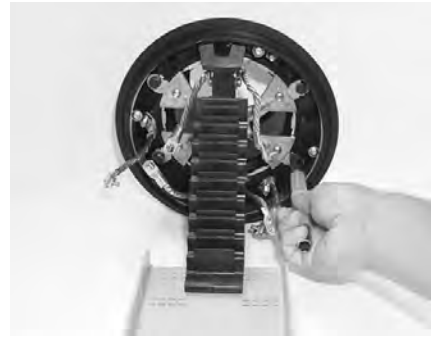

Figure 1
1. Loosen the four bolts to remove metal frame from the 450 D closure base. (See Figure 1)
1. Loosen the four bolts to remove metal frame from 450 D closure base. (See Figure 1)
2. Loosen four bolts to remove metal frame from 450 D closure base, as shown in Figure 1.
2. Loosen the four metal bolts and turn the clips inside the base to release the metal bracket from the base. (See Figure 1)